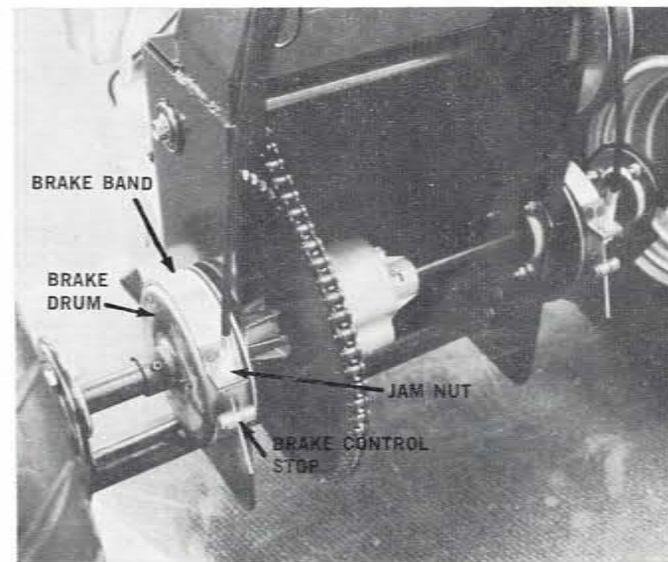

Figure 25
- Loosen brake control stop (see Figure 25) on brake cable.
- Loosen hex jam nuts inside and outside of brake band (see Figure 25).